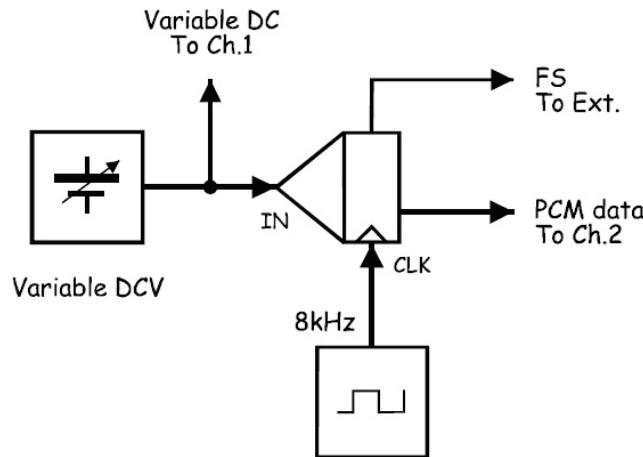

Figure 17: PCM encoder-variable DC voltage message.
- Modify the setup as shown in Figure 17 using variable DC voltage instead of 0 V (GND) signal and keep changing the DC value from the minimum to the maximum and observe the PCM data output.